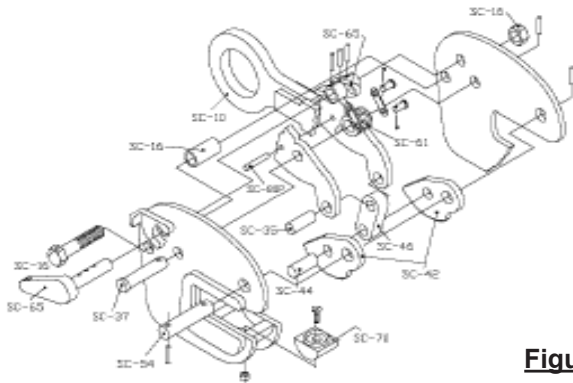

Figure 1
3. Inspect gripping cams [SC-50 or SC-42, Fig. 1] and die [SC-70, Fig. 1] for wear and/or damage. Make sure gripping surfaces are sharp and clean.
6. Inspect lock spring (SC-61, Fig. 1) for tension. To do this, lock the clamp in the closed position and push on the lifting shackle. There should be strong resistance to your pressure on the lifting shackle.
4. Inspect gripping cams [SC-50 or SC-42, Fig. 1] and gripping die [SC-70, Fig. 1]. Make sure they are sharp and clean. Do not attempt to sharpen these yourself. If gripping surfaces are worn and/or damaged, replace them with genuine Safety Clamps' parts.
- a). Remove roll pins from the SC-54 pin and SC-37 pin (Fig. 1), and remove the SC-54 and SC-37 pins from the body.
- b). Remove the roll pins from the lock assembly SC-65 (Fig. 1).
- c). Pull the handle out and remove the lock (SC-65) and spring (SC-61) assemblies (Fig. 1).
- e). Grip the lifting shackle SC-10 (Fig. 1) and pull inside assembly out of the back of the clamp.
1. Refer to the clamp diagram (Fig. 1) and reverse the disassembly process described on the previous pages.